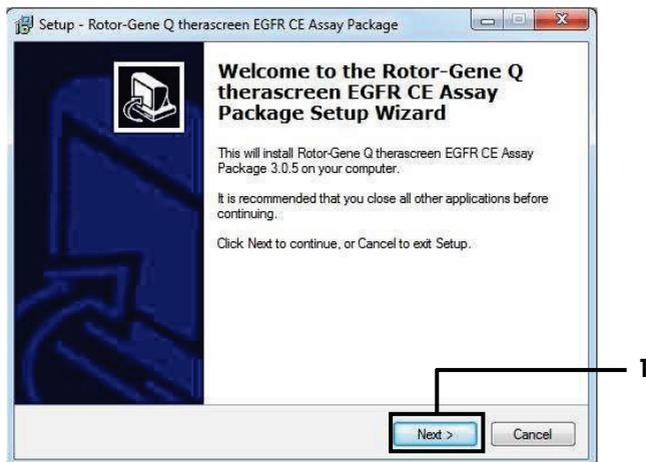

Figure 41. The “Setup Wizard ” dialog box (1 = “Next”).
6. Click **Next** to continue (Figure 41).